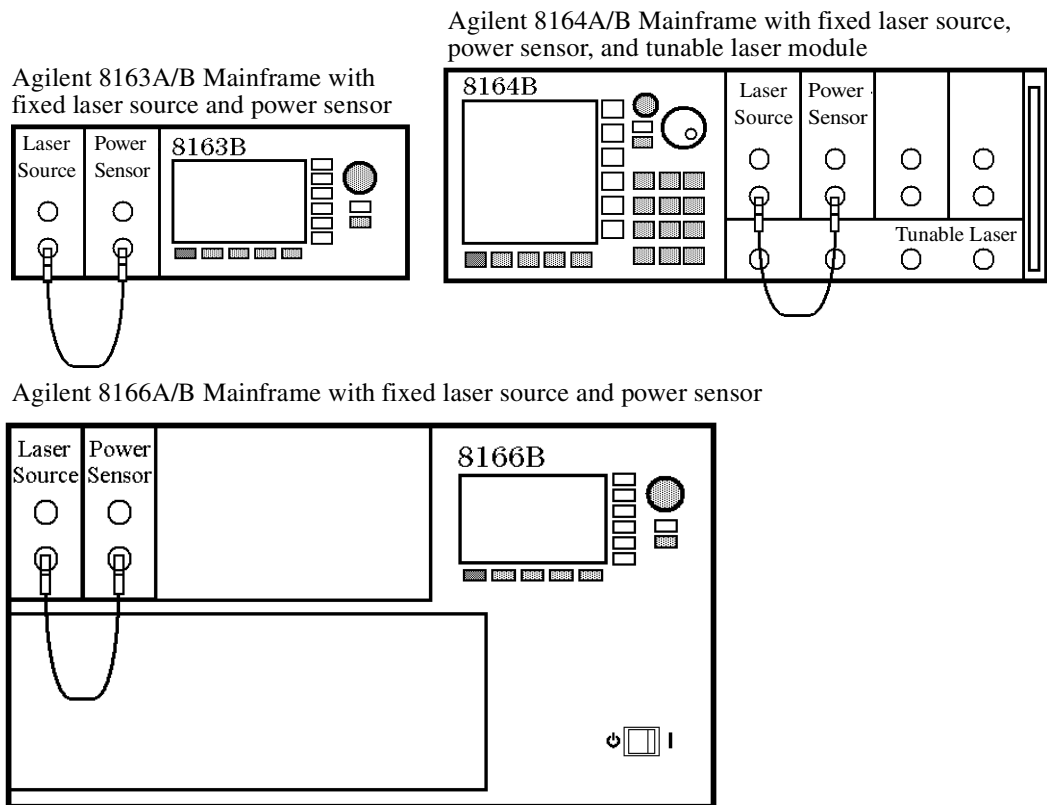

Figure 199 Mainframe Setup
1 Setup the test equipment as shown in Figure 199:
- 1** Setup the test equipment as shown in Figure 199: